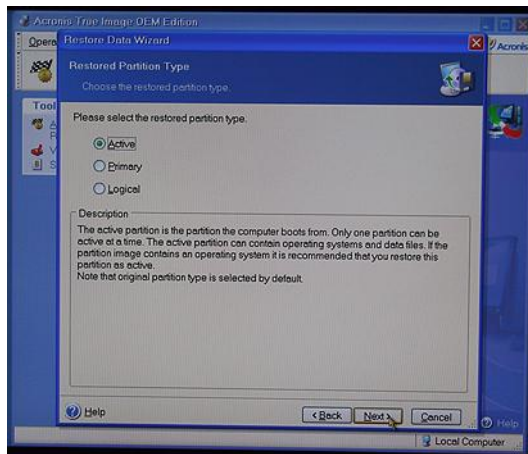

Figure 3-63
- 27) Select the **Unallocated** (Disk 1) item and then click the **Next** button to be presented with the **Restored Partition Type** page (Figure 3-63).